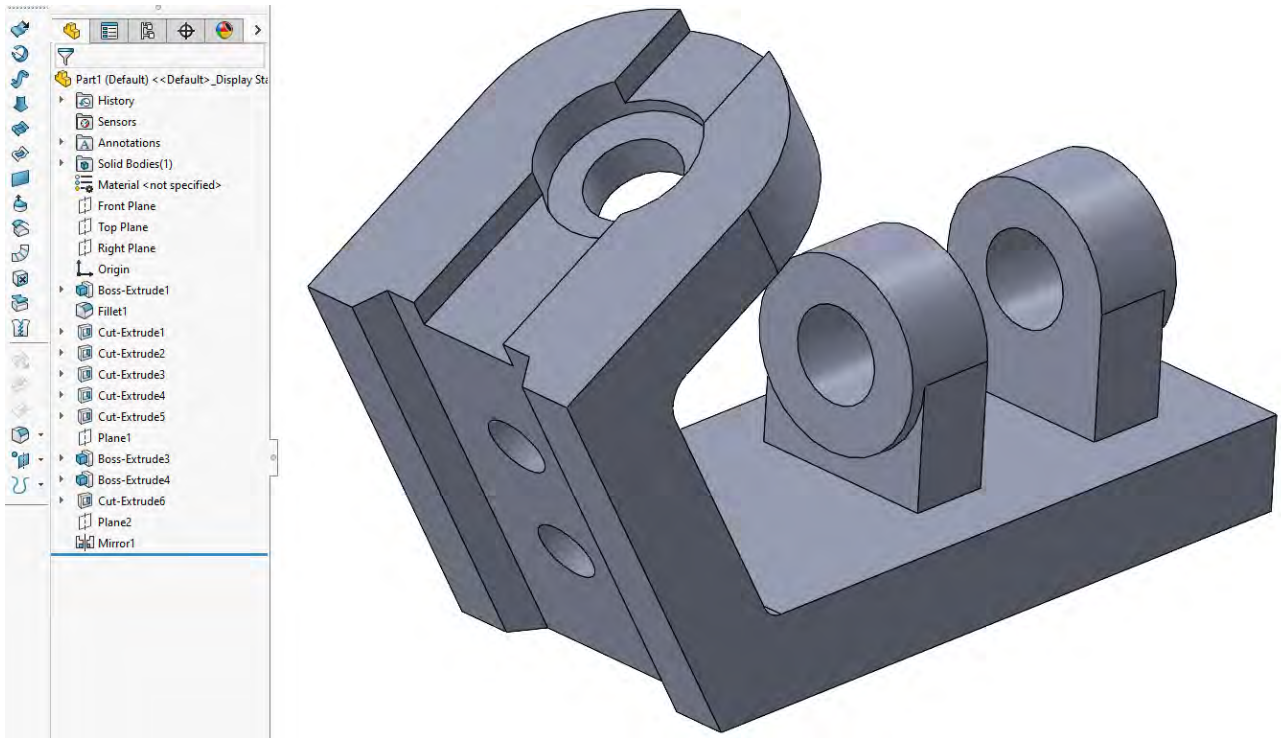

Figure 1 – Three-dimensional model of the part
5. Using the tools in the Features and Sketch panels, sequentially create a three-dimensional model of the part (Fig. 1).